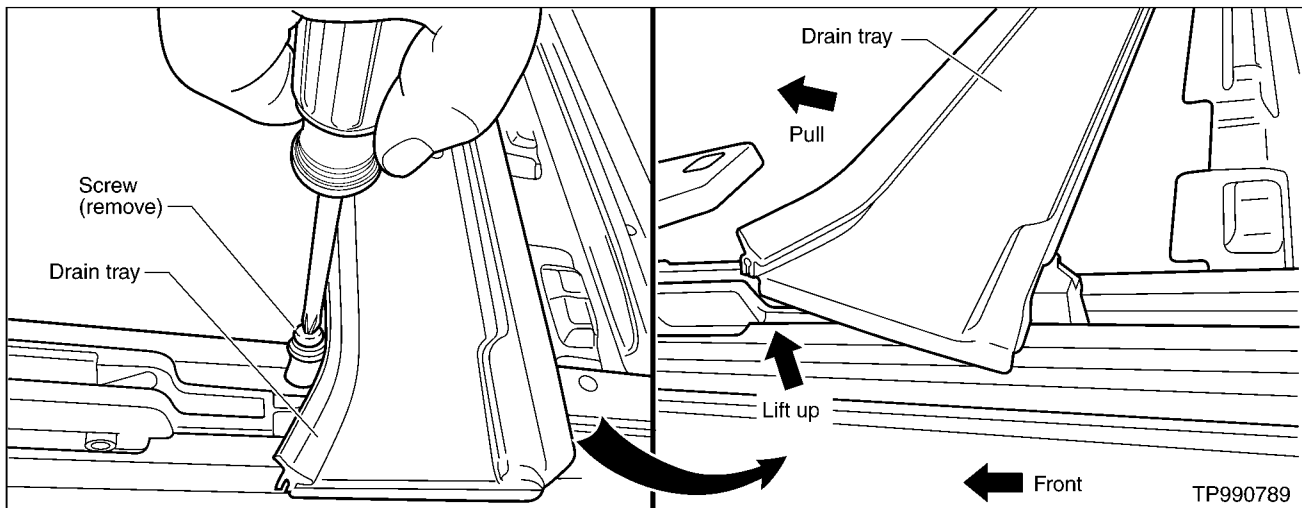

Figure 7
- A. Remove two screws that secure the drain tray to the drain guides (see Figure 7).
- B. Lift up and pull forward on the front of the drain tray to remove it from the drain guides (see Figure 7).
26. Re-install the drain tray (see Figure 7).